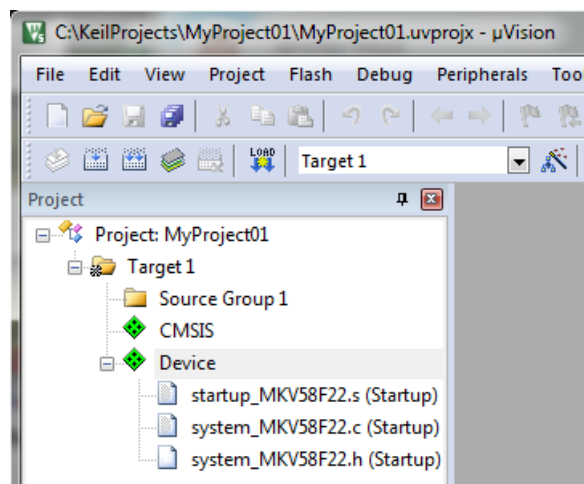

Figure 1-31. Project
- 10. Click OK, and a new project is created. The new project is now visible in the left-hand part of Keil µVision. See Figure 1-31.
13. Select Use Single Precision in the Floating Point Hardware option. See Figure 1-31.